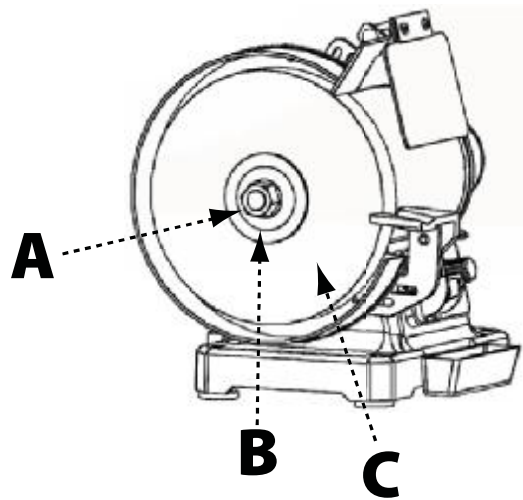

FIGURE 9
4. Remove the arbor nut (A), wheel nge (B), and old grinding wheel (C), as shown in Figure 9..